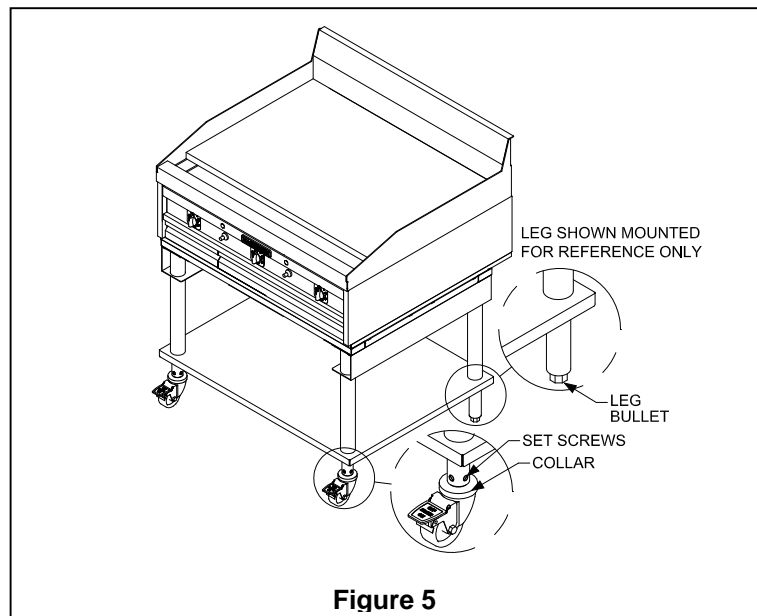

Figure 5
2. **Legs-** using a wrench, or pliers turn the leg bullet, See Figure 5, CCW to raise the height of the equipment stand. There is 1/2" to 3/4" of adjustment.
2006) Using a Flat Head screwdriver, loosen the set screws of the caster to be leveled, See Figure 5. Turn the collar of the caster CCW to raise the height of the equipment stand. There is 1/2" to 3/4" of adjustment. After leveling adjustment is complete, re-tighten set screws.